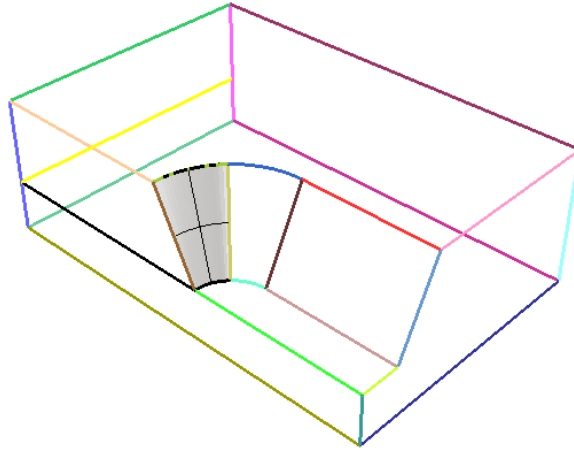

Figure 66: Completing the second construction line
7. Select **Curve|Line|Single Line** and click on the end of the last line, then move your cursor over the opposite vertical line and click when the bubble **Perp** appears Figure 66.